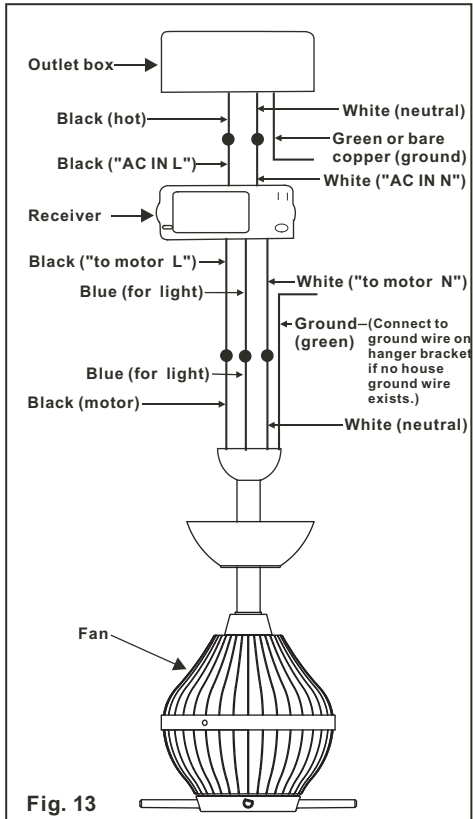

Fig. 13
**Step 2.** Motor to Receiver Electrical Connections: Connect the WHITE wire from the fan to the WHITE wire marked "TO MOTOR N" from the Receiver. Connect the BLACK wire from the fan to the BLACK wire marked "TO MOTOR L" from the Receiver. Connect the BLUE wire from the fan to the BLUE wire marked "For Light" from the Receiver. **NOTE:** If your ceiling fan features an UP Light: Connect the ORANGE wire from the fan to the ORANGE wire marked "For Up Light" from the Receiver. Otherwise disregard this step and proceed to secure all wire connections with the plastic wire nuts provided. (Fig. 13 & 14)
**Step 3.** Receiver to House Supply Wires Electrical Connections: Connect the WHITE wire (Neutral) from the outlet box to the WHITE wire marked "AC in N" from the receiver. Connect the BLACK wire (Hot) from the outlet box to the BLACK wire marked "AC in L" from the receiver. Secure all wire connections with the plastic wire nuts provided. (Fig. 13 & 14)
**Step 4.** If your outlet box has a GROUND wire (Green or Bare Copper) connect this wire to the Hanger Ball and Hanger Bracket Ground wires. If your outlet box does not have a Ground Wire, then connect the Hanger Ball and Hanger Bracket Ground Wires together. Secure wire connection with the plastic wire nut provided. (Fig. 13 & 14)